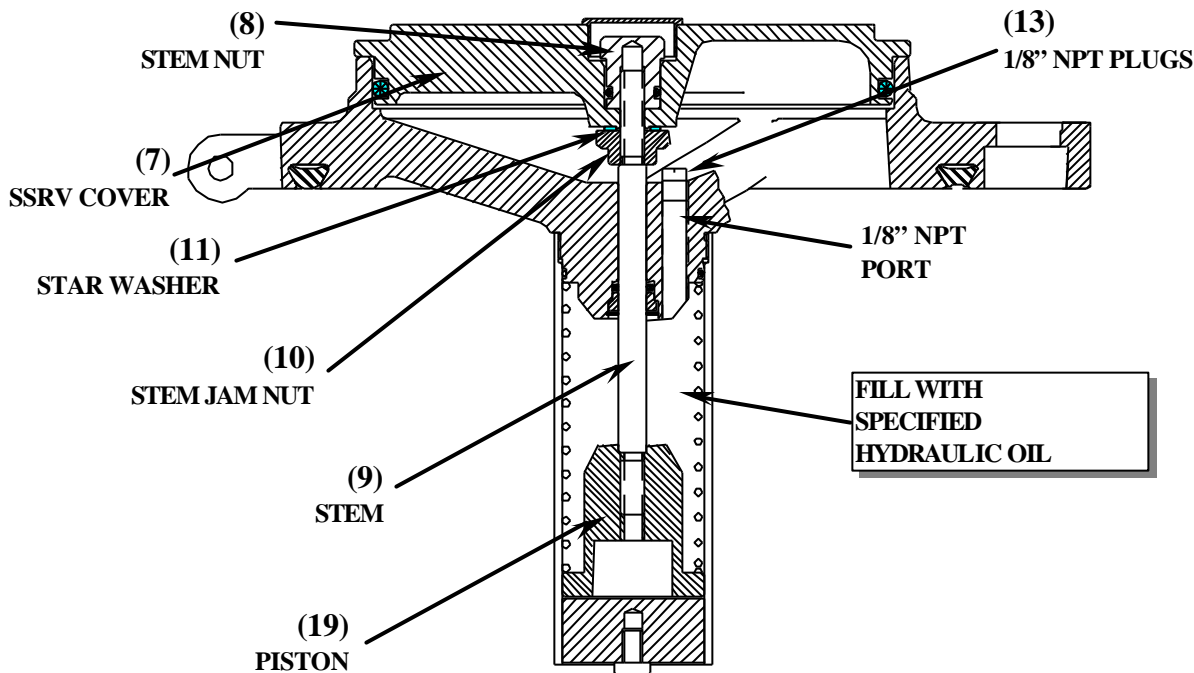

FIGURE 14
4. Piston/Stem sub-assembly: Refer to figure 14.
- 4.3.1. Only grip the *Stem* very close to the *Piston*, and grip the *Piston* on the small diameter. Refer to figure 14.
7. Re-filling the hydraulic oil: Refer to figure 14.